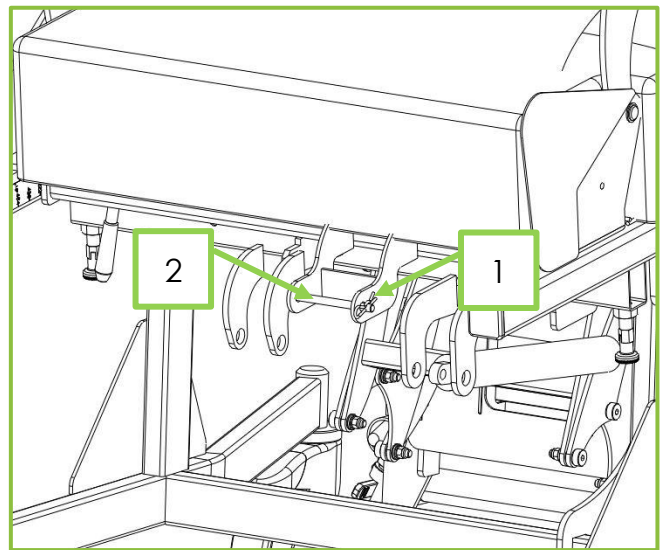

Figure 2 – Backrest clevis pin
4. Remove the R-clip (Fig 2, Item 1), then remove the clevis pin (Fig 2, Item 2).